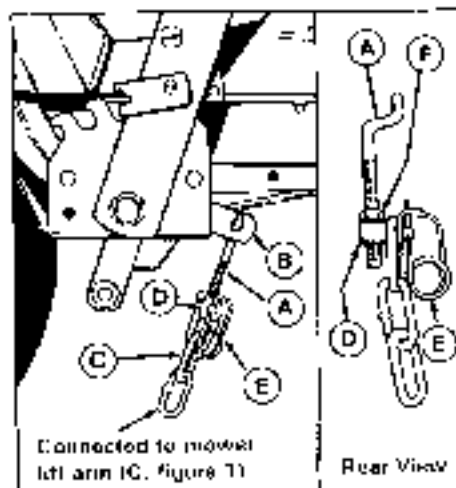
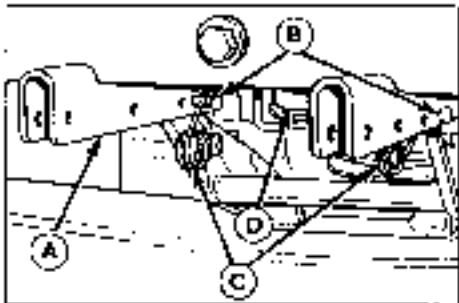

Figure 2. Lift Chain
Figure 4. Mower Hitch Attached
6. Connect the chain (C, figure 2) to the tractor hitch (D) with a clip (E) if optional electric lift is used, use only three links of chain.
7. Push on the mower hitch arms (C, figure 2) so they are underneath the rear holes in tractor hitch (A, figure 4). Lift up one side of mower with both hands
and align hole in mower hitch arm with rear hole in tractor hitch. When hole aligns, use one hand to insert a pin (B, figure 4) thru hitch. Go to the other side and insert the other pin. Install the two safety clips (C) in the arms.